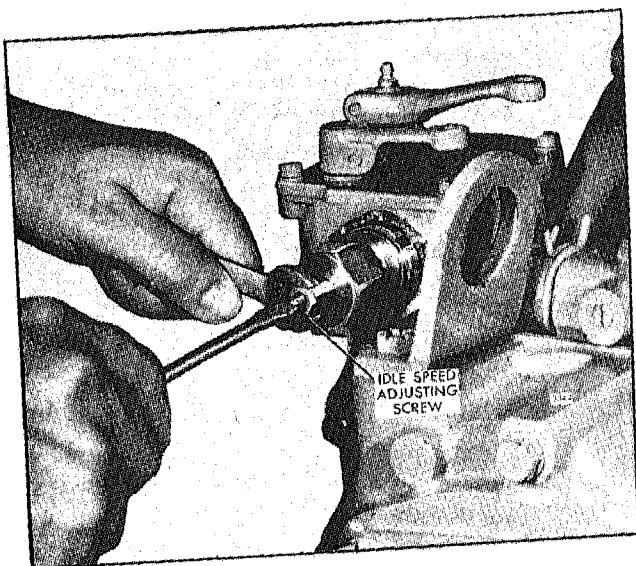

Fig. 5 - Adjusting Engine Idle Speed
4. Start the engine and adjust the idle speed screw (Fig. 5) to obtain an idle speed of 500-600 rpm.
1. With the engine running at normal operating temperature and with the buffer screw backed out to avoid contact with the differential lever, turn the idle speed adjusting screw (Fig. 5) until the engine idles at the recommended idle speed.